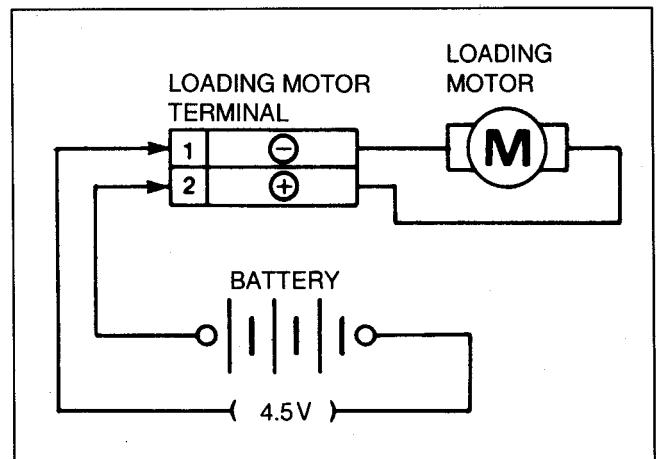

Fig. S10
- 2) Connect the Battery (Manganese-Type R6 (AA) 3pcs./ +4.5V) to the Loading Motor terminals as shown in Fig. S10.